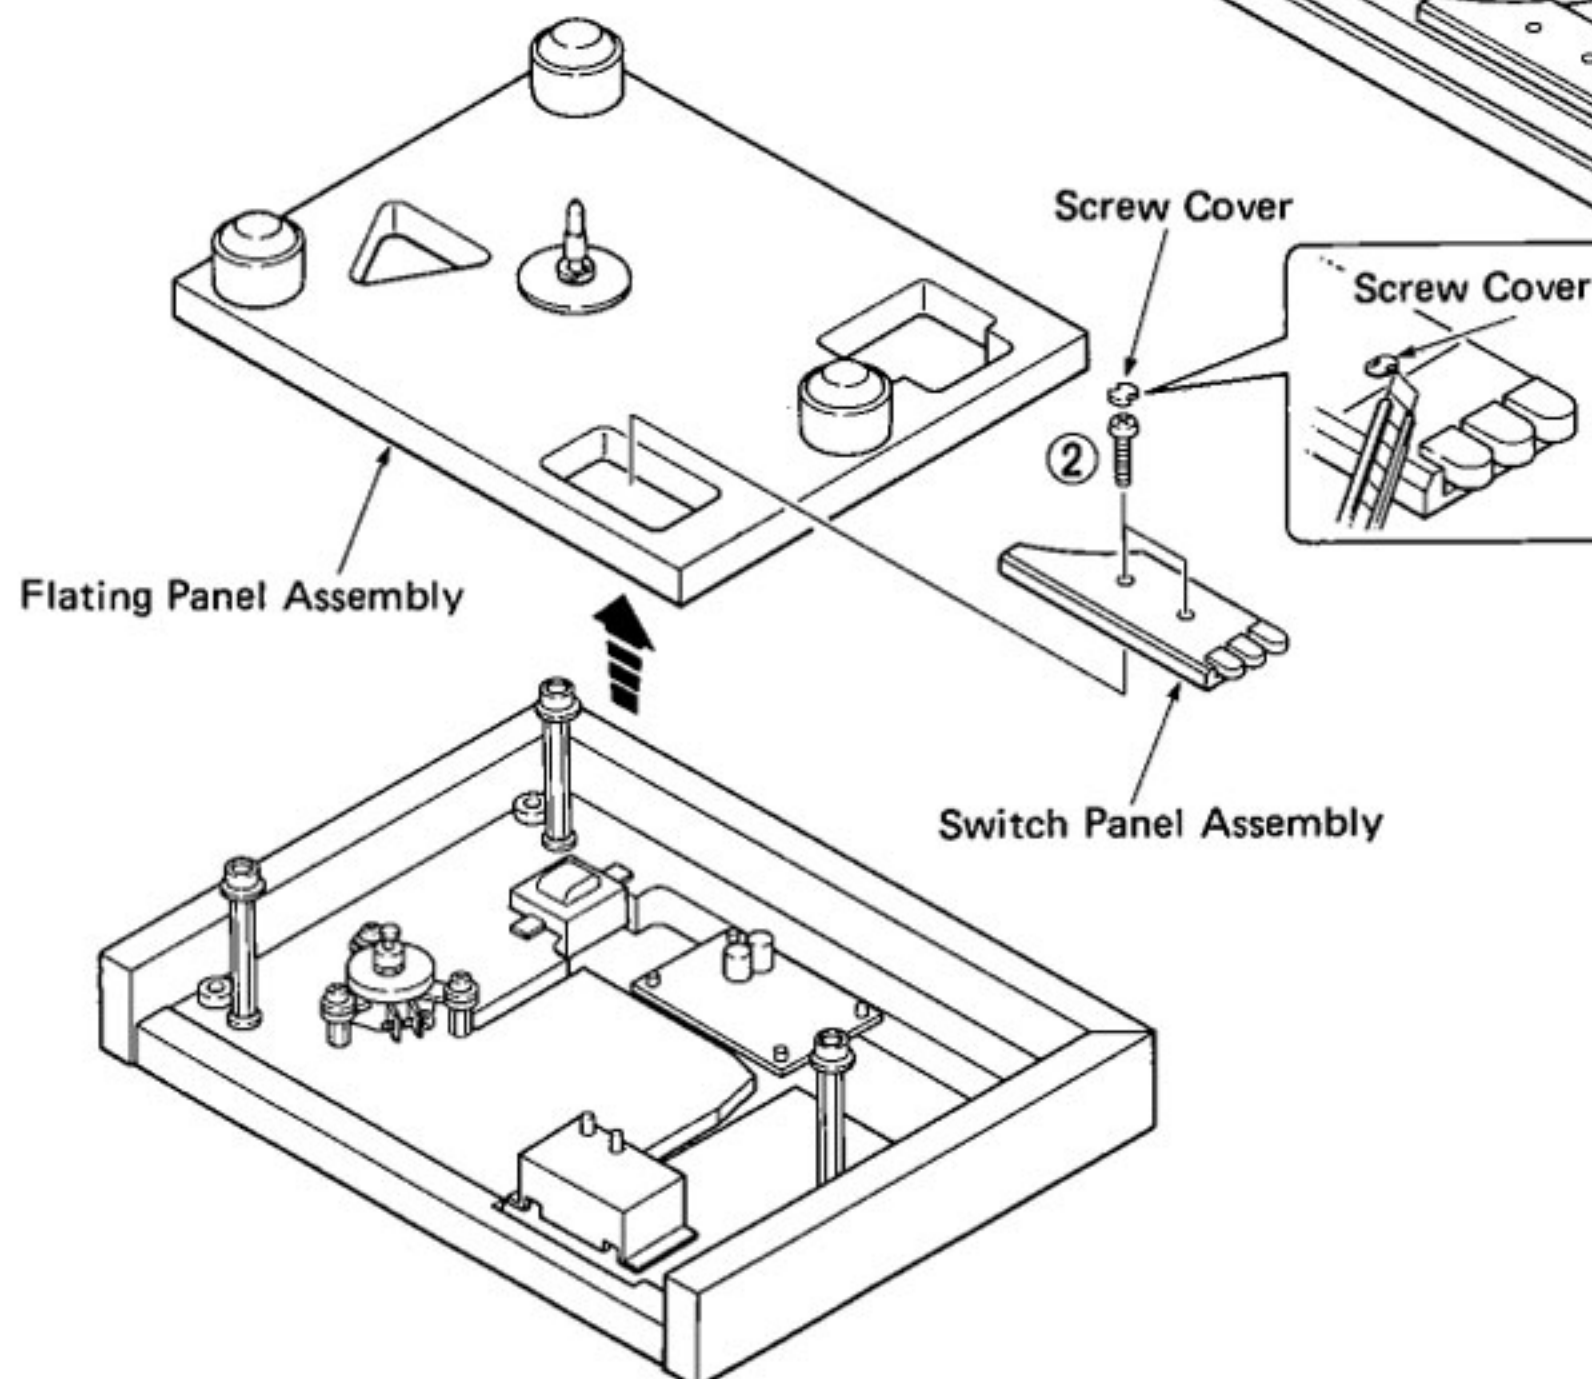

Fig.2
② CONTROL CIRCUIT BOARD (1)
③ PU CORD ASSEMBLY
④ MOTOR UNIT
⑤ SWITCH CIRCUIT BOARD [Control (2)]
- Remove 3 screws (①).
- Remove the screw covers by using a knife or the like as shown in fig. 2.
- Remove 2 screws (②) and then remove Switch Panel Assembly.